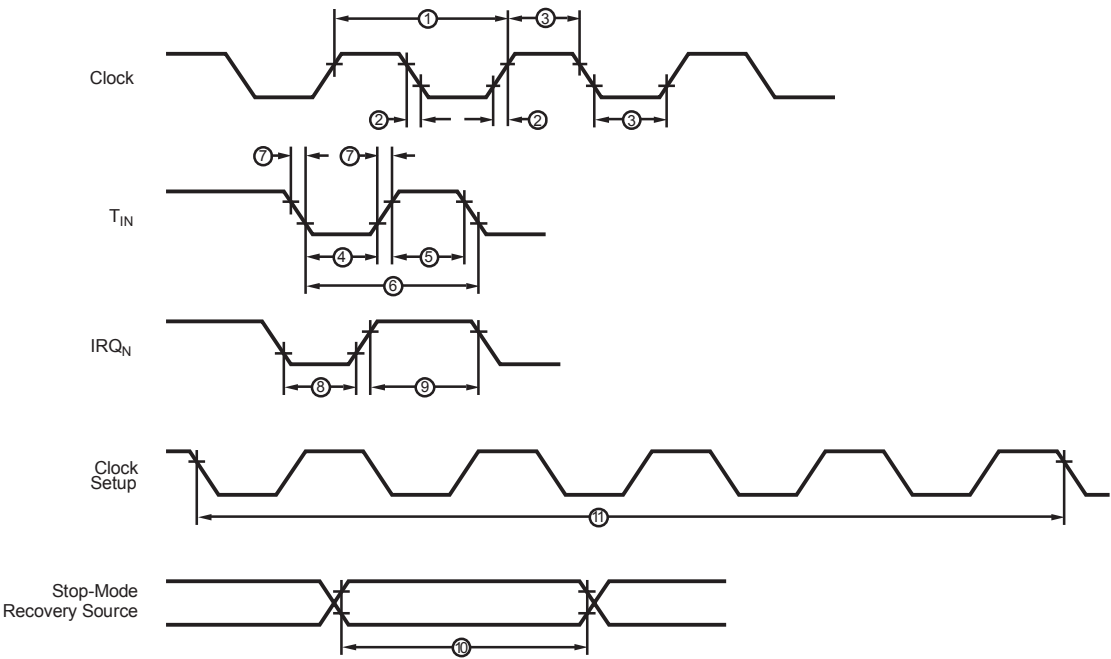

Figure 40. AC Timing Diagram
Figure 40 and Table 61 describe the Alternating Current (AC) characteristics.